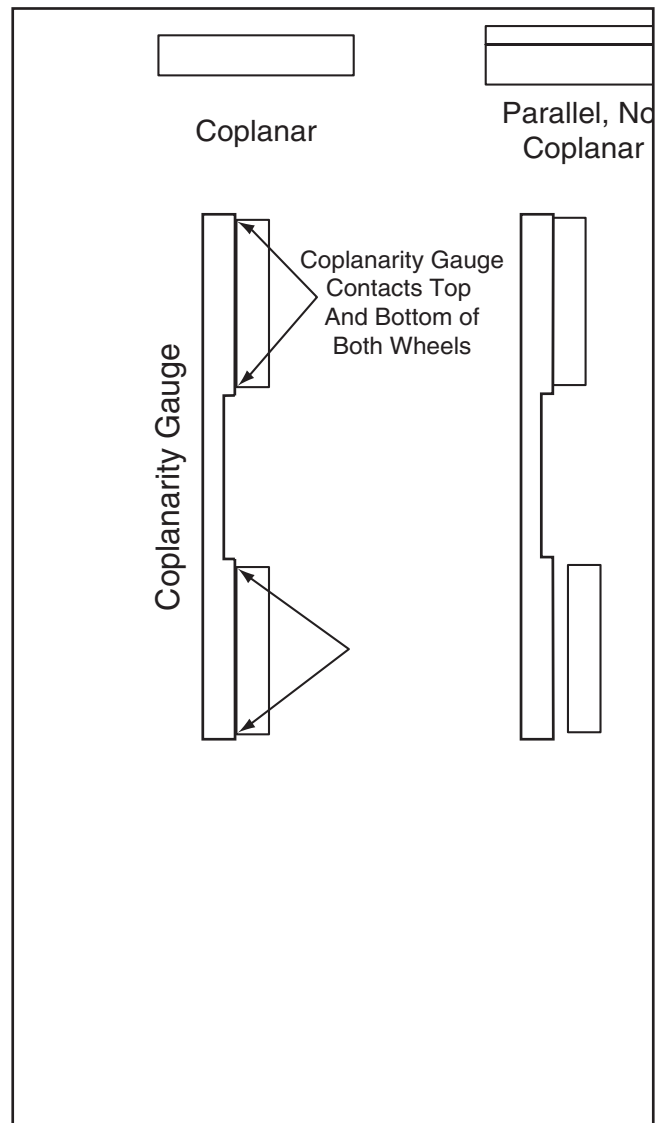

Figure 64. Dimensions of coplanarity gauge.
1. Make the "Coplanarity Gauge" shown in **Figure 64**.